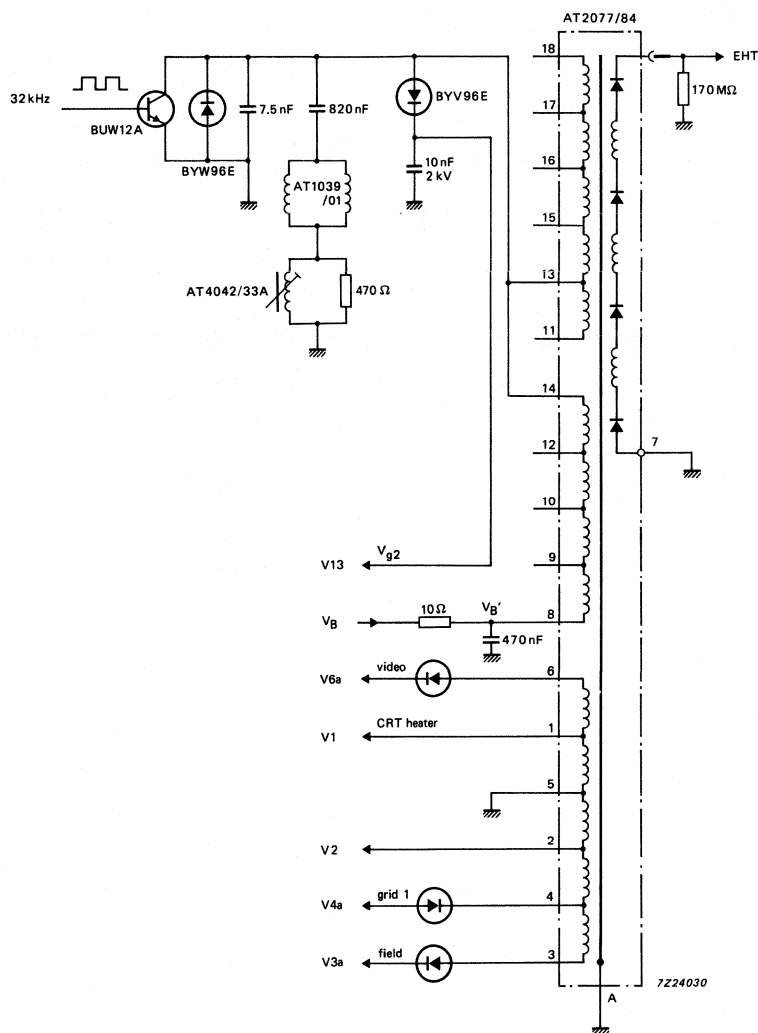

Fig. 6 Application circuit, landscape format, 32 kHz.
**ELECTRICAL DATA** (landscape format at 32 kHz; see Fig. 6)